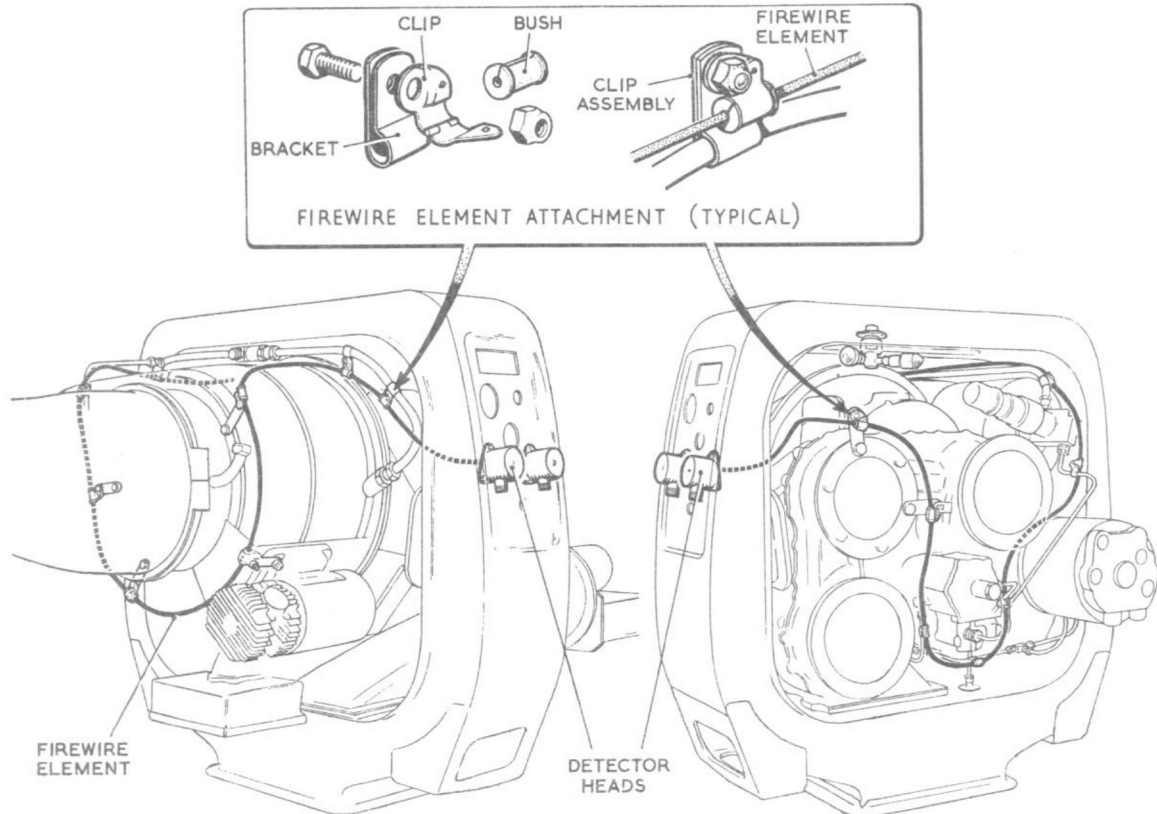

Fig. 1. Layout of the Firewire system
2. (1) Position the Firewire in the 24 securing clips, taking extreme care to avoid kinks or sharp bends. The run of the Firewire is shown in fig. 1.